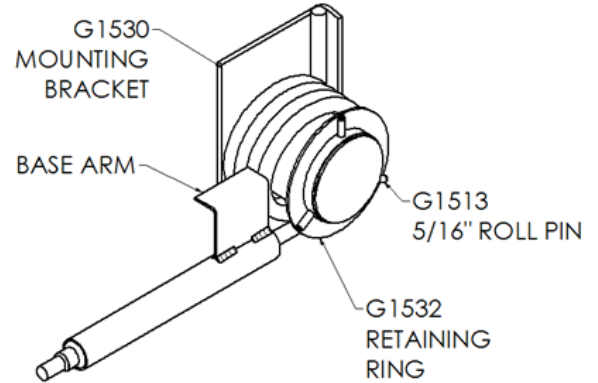

figure 4
C. Insert one Bow Corner (G2099) into an Upper Arm and slide the Arm onto the Arm Mounting Bracket pivot tube. Swing the Arm towards the gantry and adjust the bow in or out so that it rests approximately above the center of the roller shaft on the end bearing plate of the roll assembly. Secure the bow to the arm with clamps and swing the arm thru its arc to the rear of the truck. The bow, which will hold the rear section cross tube, should line up with the front edge of the door on the container. If the bow goes past the rear of the container, the Arm Mounting Bracket will have to be moved forward and the arm length shortened accordingly. If the bow falls short of the rear of the container, move the Arm Mounting Bracket toward the rear of the truck and lengthen the arm. Re-position the bracket if necessary and re-check as outlined above in *figure 4*.